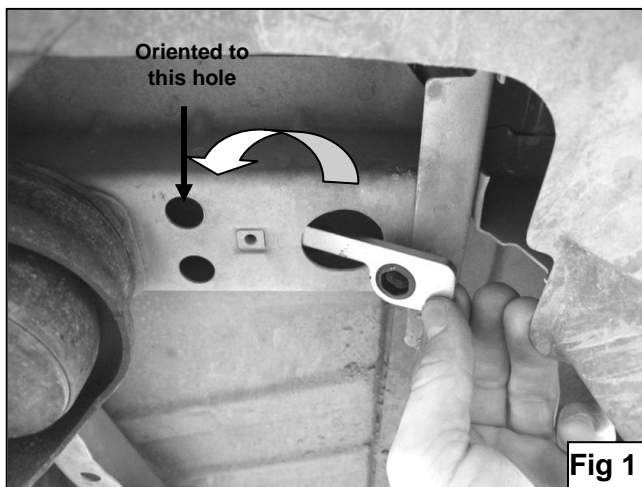

Fig 1
2. From underside of vehicle, locate the three factory holes (one large, two small) in the driver side cross frame by the front body mount. With the welded nuts facing up, insert the smaller end of the driver side Double Nut Plate through large hole in the frame and orient it to front smaller hole **(Figure 1)**.